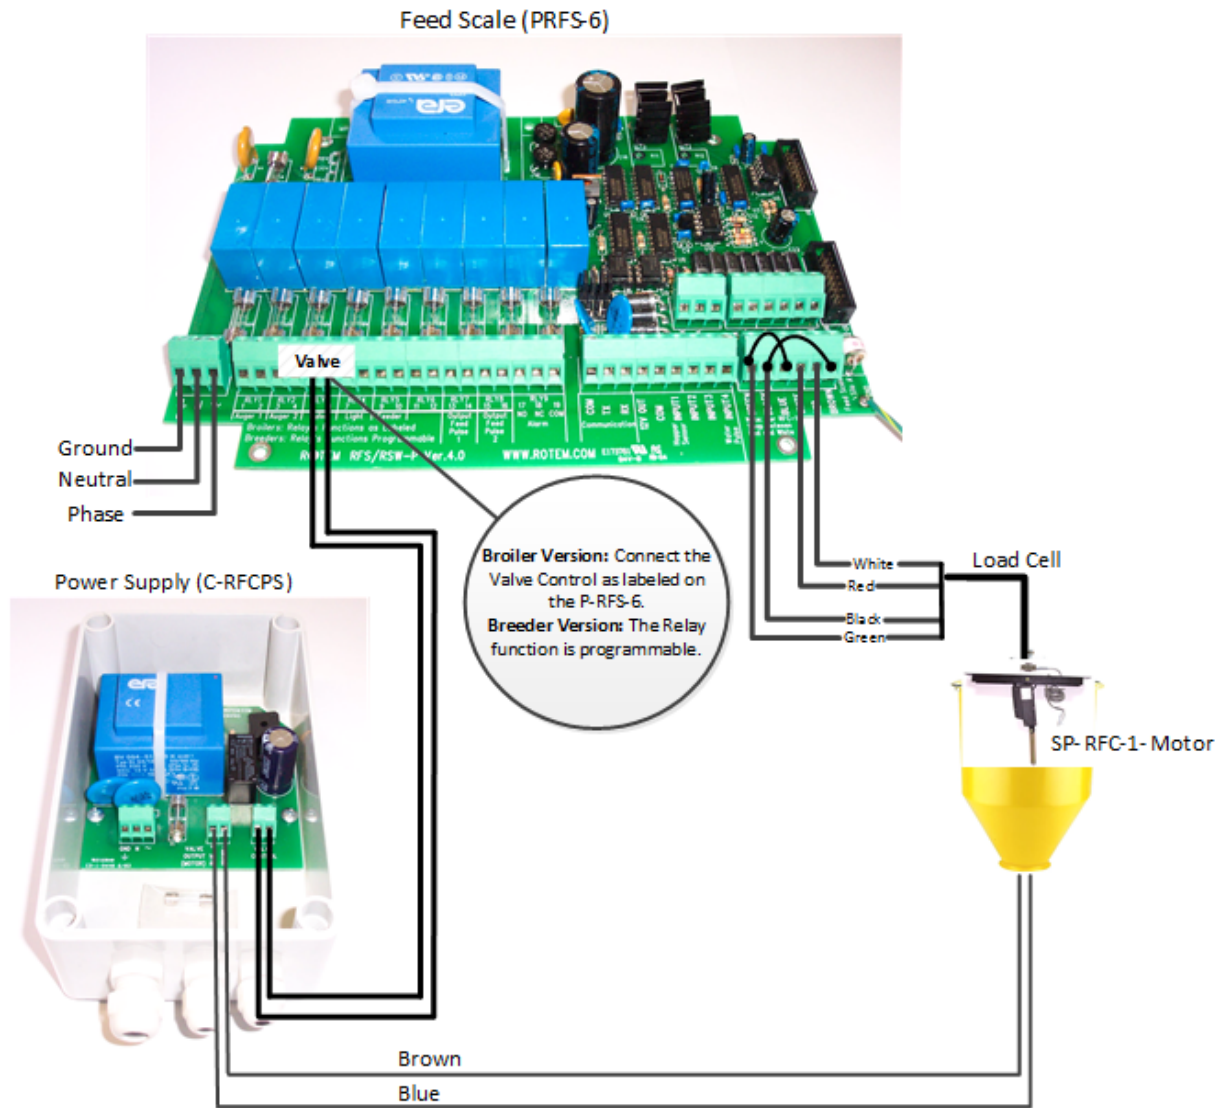

Figure 5: P-RFS-6 Motor Supply (4 wires)
There are RFC units that are wired to the RSW board with four (4) wires. In this option, two jumpers are required. Figure 5 illustrates how wire the unit and where to place the jumpers.